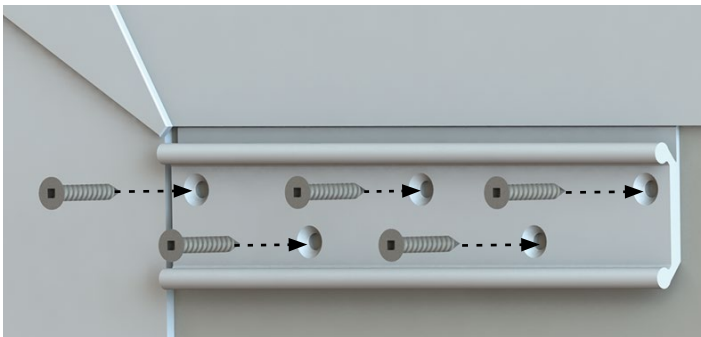

Fig.10
2. Fasten the mounting bracket to the slide-out exterior wall using the five provided #10 -13 x 1 ¼" recessed square head screws (Fig.10).